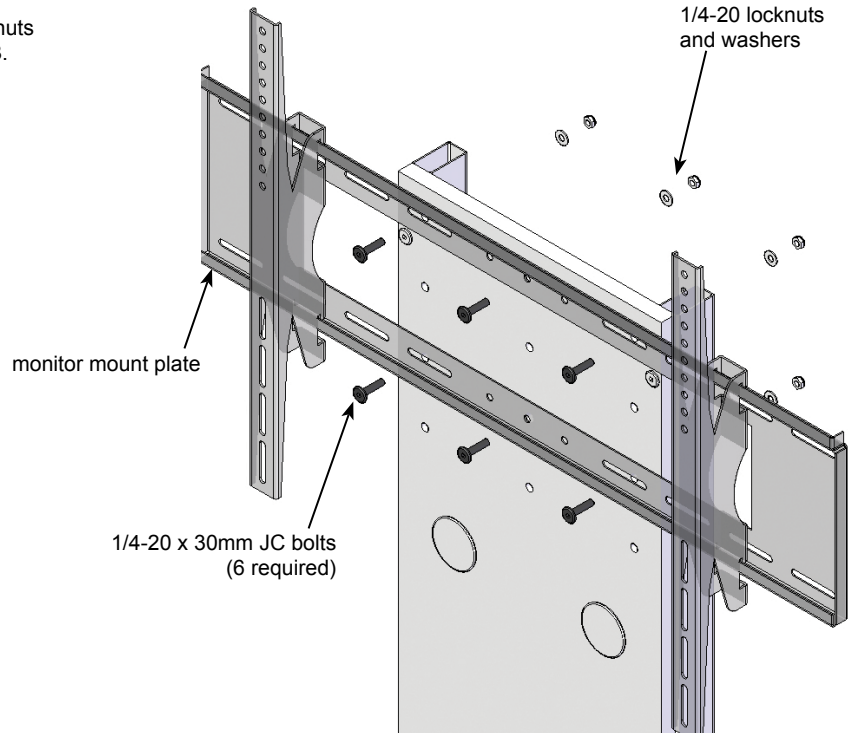

Figure 1B
2. Remove the (6) 1/4-20 x 30mm JC bolts, and 1/4-20 locknuts and set the mount aside. Retain all fasteners. **Figure 1B.**